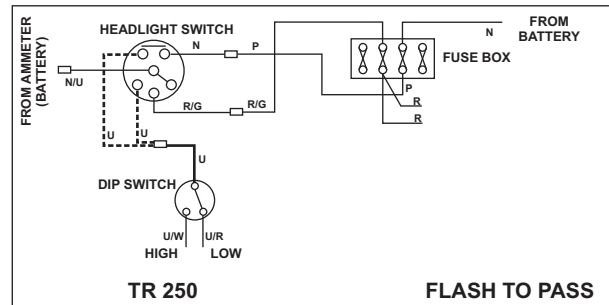

FIGURE 6
**TR250:** for some strange reason, the flash-to-pass feature doesn't work on the TR250 when it is needed the most - at night with the headlights on! Usually, one blows the horn to pass in the daytime, and flashes the lights for night time passing, but with the TR250, you will have to use the horn at night as well. As can be seen in **figure 6** below, power from the flash-to-pass switch is applied to the blue wire into the dimmer switch, exactly the same as power from the main headlight switch. Flipping the headlight switch to the flash-to-pass position has no effect if the headlight switch has already applied power to this blue wire. If you wish to modify the wiring so that this feature works the same as the later models, just disconnect the blue wire from the headlight switch to the blue wire on the dimmer switch, and reconnect it to the blue/white wire at the dimmer switch.